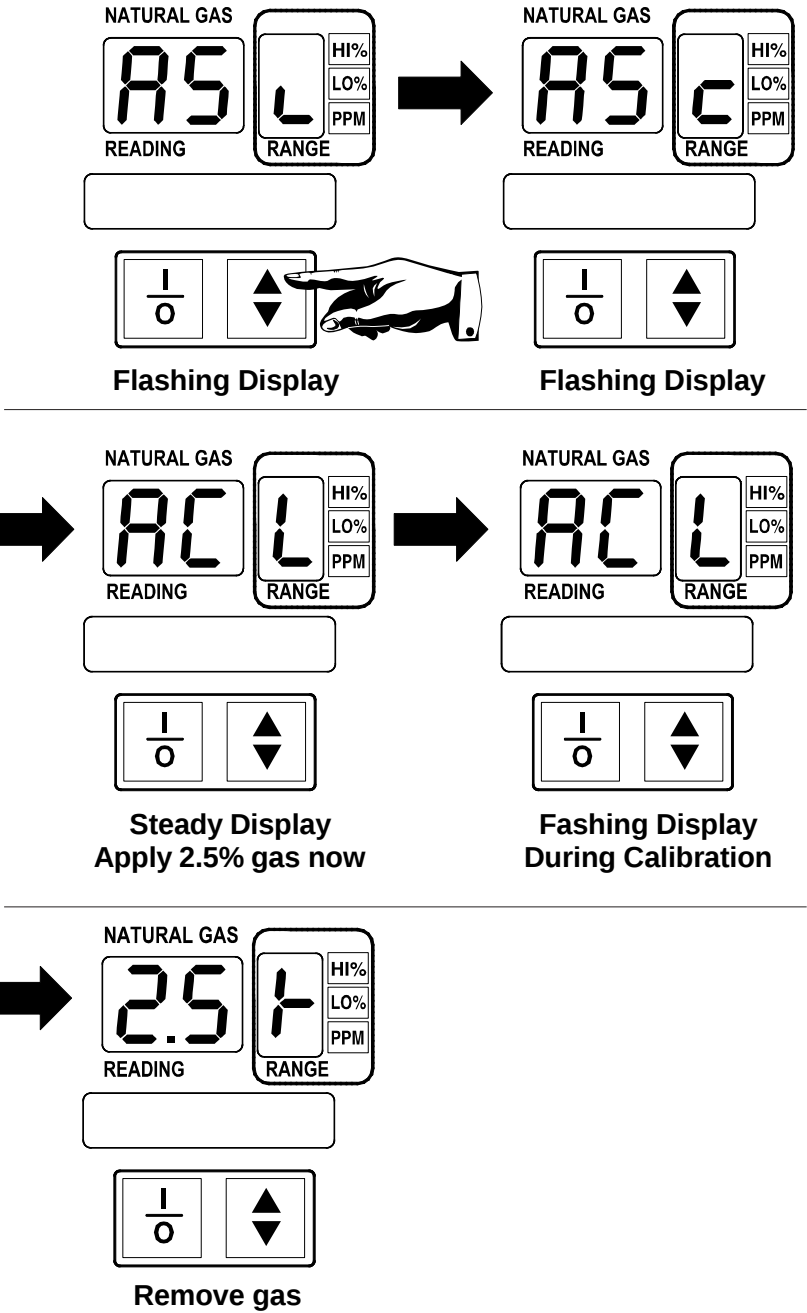
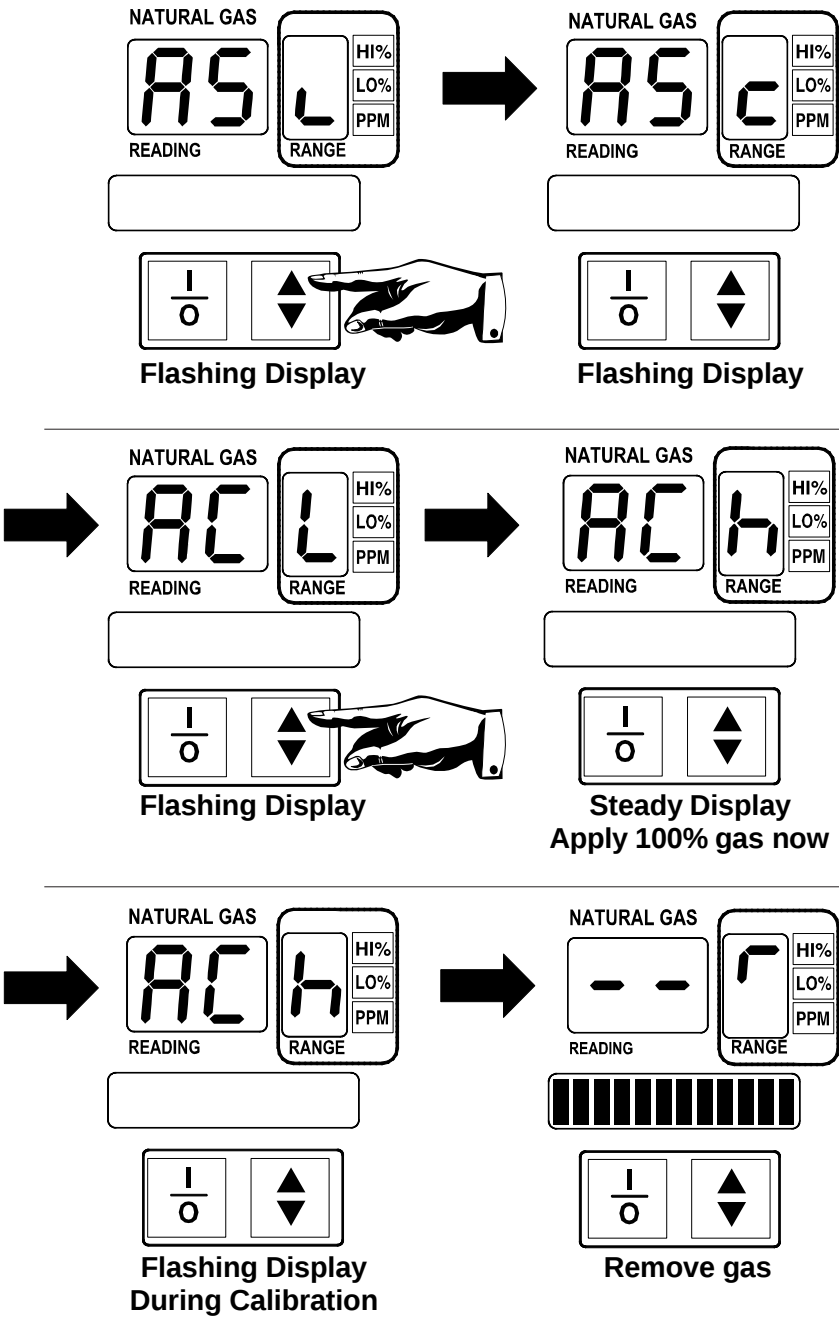

Figure 19. Performing a LO% Calibration
Figure 20. Performing a HI% Calibration
3. See Figures 19 and 20. Auto calibration is started by pushing the  key at any time while "AS" is being displayed. Observe that the letter "C" appears in the RANGE window, indicating that the instrument is ready for calibration at the conclusion of the auto-start sequence. Calibration gas *must not* be supplied to the instrument before this time, or the sensor's zero setting will be in error.
4. Following the auto-start period, the instrument will display a steady "AC" for about 10 seconds and display "L" (for LO%) in the RANGE window. The default range is LO% (Figure 19), but if you are calibrating the HI% range (Figure 20), then press the  key until "h" is displayed.